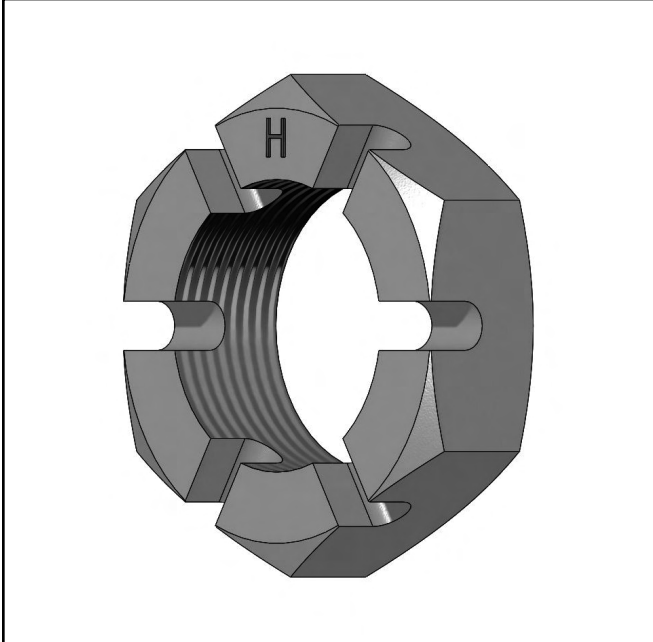
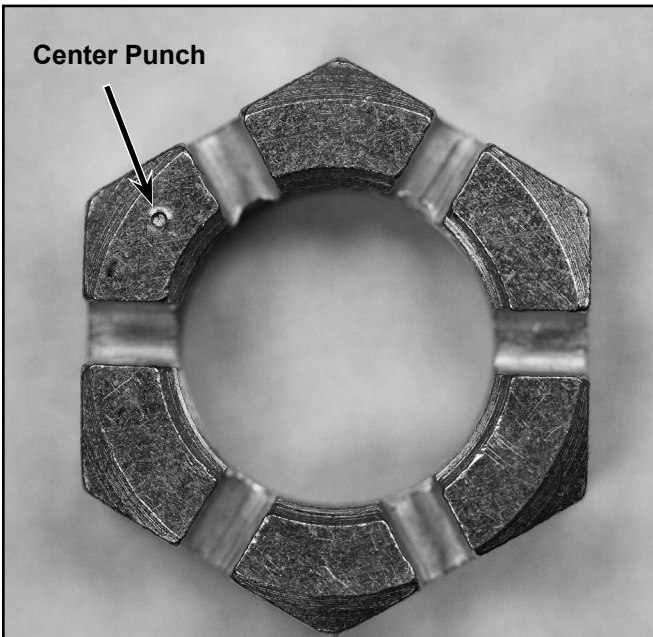
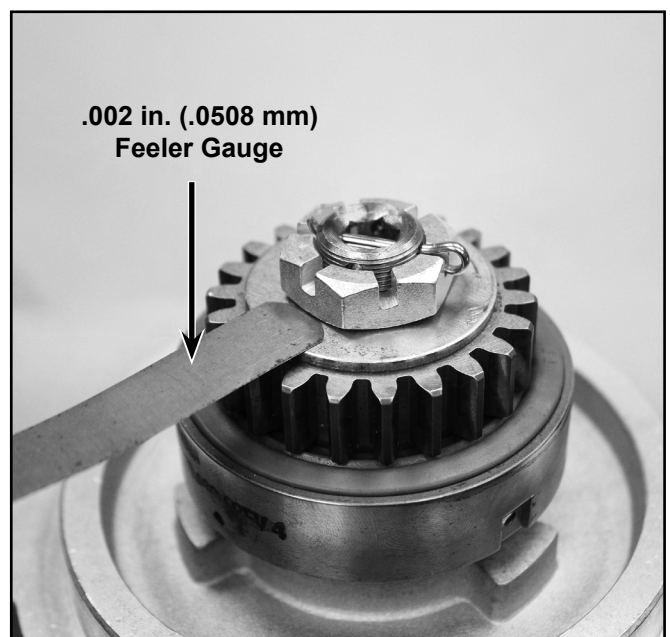

Figure 3 - Laser Etched "H"
Figure 5 - Center-Punch Mark
Figure 6 - Gap Measurement
- (1) Remove the alternator from the engine in accordance with the latest revision of the aircraft and/or engine manufacturer's maintenance manual.
- (2) Inspect castellated hex-nut (1). If one the following indicators is present, the alternator is in compliance with this ASB. Refer to Figures 3 thru 5.
- (a) Hex-nut (1) is laser etched with the letter "H";
- (b) Hex-nut (1) is stamped with a center-punch;
- (c) Hex-nut (1) is roll-stamped with the letters "AD".
- (3) If any indicator stated above **is not** present, proceed to 3.B.(4). If one of the indicators stated above **is** present, continue to 3.B.(8).
- (4) Using a .002 in. (.0508 mm) feeler-gauge, measure the gap between the nut thrust face and the thrust washer at each of the six hex-nut flats. Refer to Figure 6.
**NOTE:** **Do Not** remove cotter pin (2) or break torque prior to conducting measurements.
- 1) Using an automatic center punch, punch the face of the hex-nut (1) so that it will be easily identified for future reference (Refer to Figure 5). Continue to 3.B.(8).